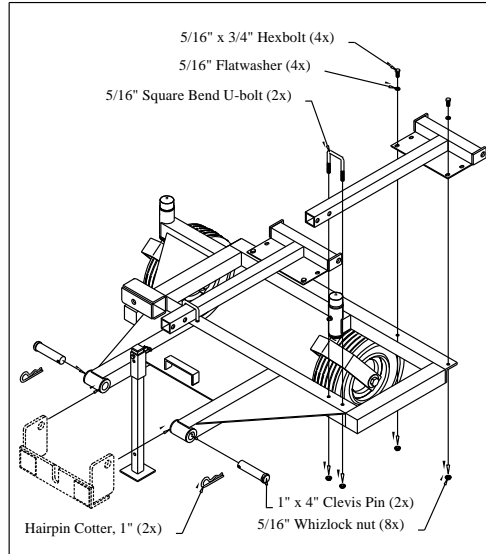

Fig. 2
2. Attach hitch (56) to rear of tractor as shown in hitch instructions. Hold frame (1) up to hitch (once installed on tractor) aligning the horizontal receiver tubes up with 1" diameter holes in hitch arms, secure with 1" clevis pins and hairpin cotter clips. Set FD frame (2) onto main frame (1). Align holes in FD-frame (2) with holes in main frame (1) as shown and loosely secure with 2-5/16" x 3/4" bolts, flatwashers and whizlock nuts on the "T" side of FD-frame, and with 5/16" square bend u-bolt and whizlock nuts on the leg of the FD-frame. Do not tighten. Repeat procedure for second FD-frame. Note: be sure and use the holes on FD-Frame illustrated in Fig. 2 to secure them to the main frame. See Fig. 2